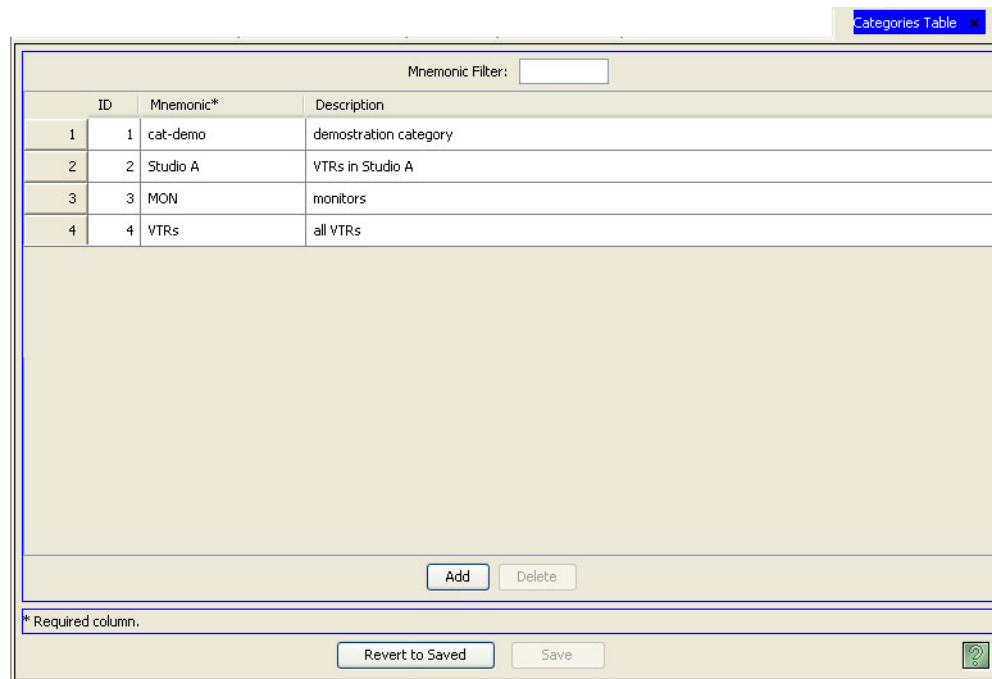

Figure 10-20. Categories Table
- 2 From the Navigation area, select the 'Views' pane and then 'Categories'. The 'Categories' table appears, as shown in Figure 10-20.